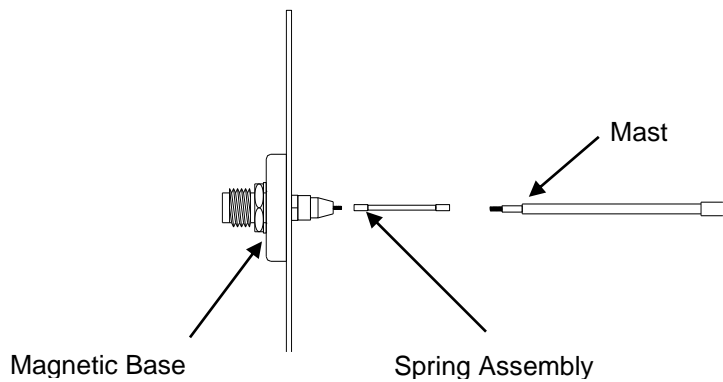

Figure 1
1. **Part List:** The system package includes magnetic base, spring assembly, mast, matching cable network, feedline, and connectors if applicable. Use only components supplied with the antenna system (Refer to Figure 1-Parts List).